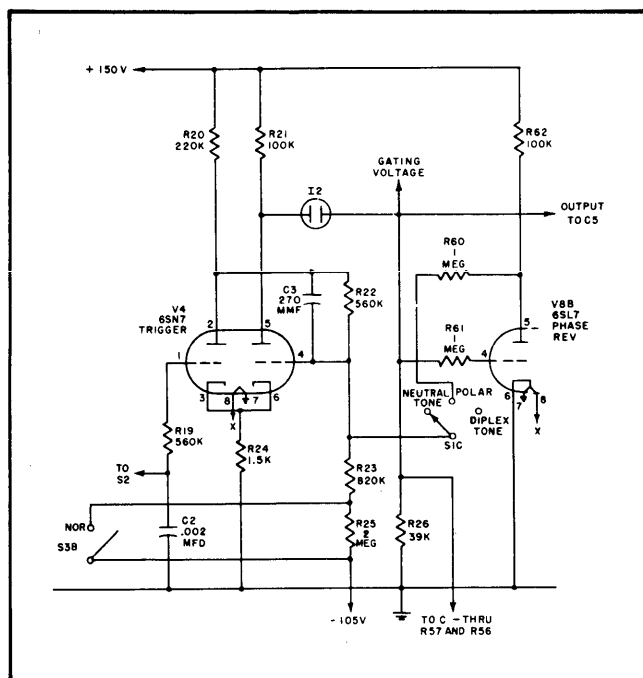

Figure 2-4. Trigger Circuit
b. TRIGGER CIRCUIT — The trigger circuit illustrated in Figure 2-4 is provided to accept the dc input signals from either the rectifier tube V3 or directly from the dc inputs and provide a stable square wave dc teletype signal voltage at the trigger output. A uniform square wave voltage is essential for optimum operation of the following sampling pulse generating circuits and gating circuits. Trigger tube V4 utilizes a direct coupled flip-flop circuit to secure a square wave voltage across the output load resistor R26. Threshold action is secured in V4 as random input voltages below a certain critical level necessary to trigger the tube will have no effect on the circuit. If there is considerable noise on the input signal, input to the trigger tube should be adjusted to provide about 6 db more signal input than will just trigger V4. If the input signal is varying in amplitude, however, input to the trigger tube must be adjusted to provide enough signal above the trigger point of V4 that the varying level never falls below the trigger point.
(1) Operation of the trigger circuit is as follows: Keying switch S3 shorts out resistor R25 when set for NORMAL keying. This puts the grid of V4B at a negative potential, the plate draws no current and neon lamp I2 is on. Voltage (about 18 volts) is now developed across resistor R26. When signal is applied to the Repeater as during the stop mark, a negative voltage is applied to the grid of V4A. This reduces the plate current causing the plate of V4A and the grid of V4B (coupled to the plate through R22) to swing positive. Plate current is drawn in V4B, the plate voltage drops below the operating potential required for neon lamp I2 and the voltage across R26 drops to zero. Since application of a negative voltage to the grid of V4A causes an increase in the plate current of V4B, the current through the common cathode resistor R24 increases, causing the cathode bias voltage to increase. This effect on V4A is in the same direction as the application of the initial negative voltage to the grid so that a regenerative action results and a very steep drop off in voltage across R26 results. Upon removal of the negative voltage to the grid of V4A,